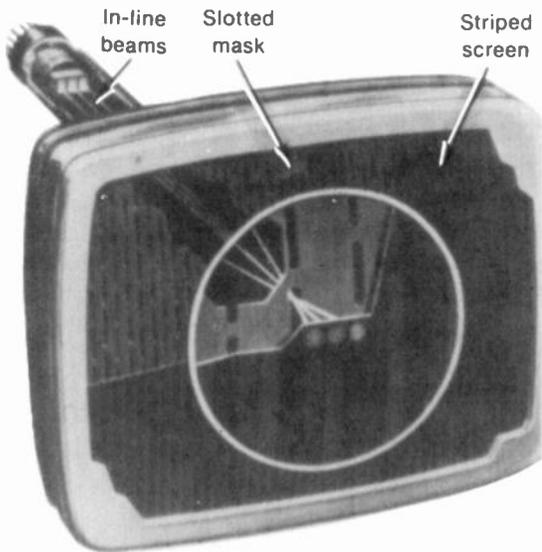
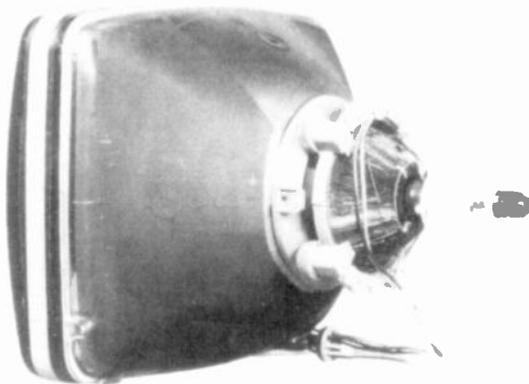

FIGURE 10-17 CONSTRUCTION OF COLOR PICTURE TUBE WITH IN-LINE GUNS AND VERTICAL PHOSPHOR STRIPES. (RCA)
FIGURE 10-18 DEFLECTION YOKE, CONVERGENCE, AND PURITY MAGNETS ON NECK OF PICTURE TUBE SHOWN IN FIG. 10-17.
**RCA in-line picture tube.** The construction is illustrated in Fig. 10-17. Continuous vertical phosphor strips are used with in-line beams, but the aperture mask is slotted to provide a spherical shape. The few components mounted on the neck are shown in Fig. 10-18. These include the deflection yoke and a magnet assembly for purity and static convergence. However, these are cemented to the tube, because their position is critical. This arrangement allows permanent factory adjustments, so that very little setup is required for a new receiver or a new picture tube. For replacement, the entire assembly of picture tube, yoke, and magnets is changed as one unit. The magnet assembly on the neck is for static convergence, as there are no adjustments for dynamic convergence.